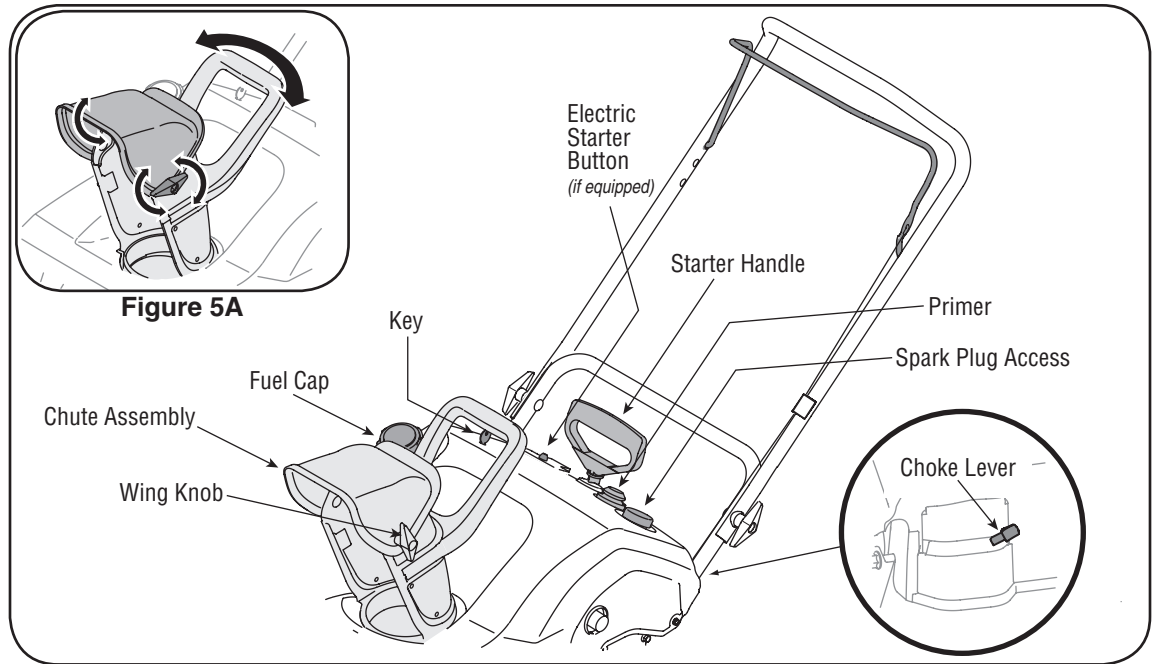

Figure 5
4. Now follow the instructions below as it pertains to your unit. See Figure 5 for location of controls.